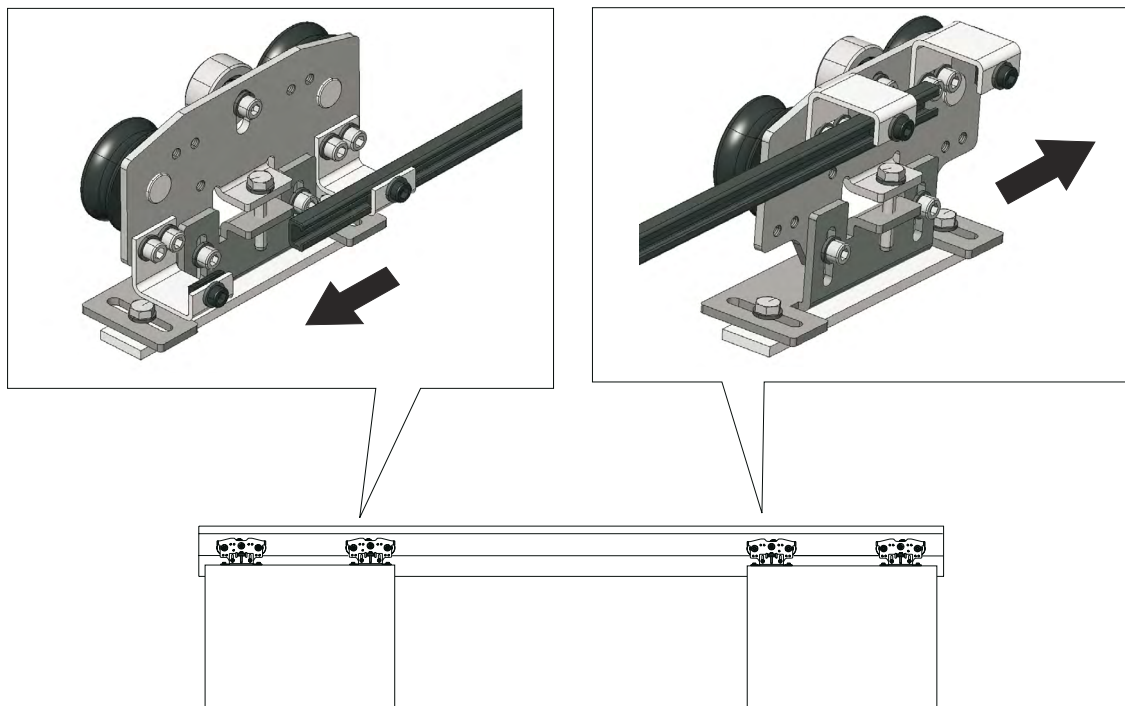

fig. 31
- Take the leaves to their opening position (fig. 31).
- Fit two plates with threaded hole inside each of the two drive rods (fig. 31).